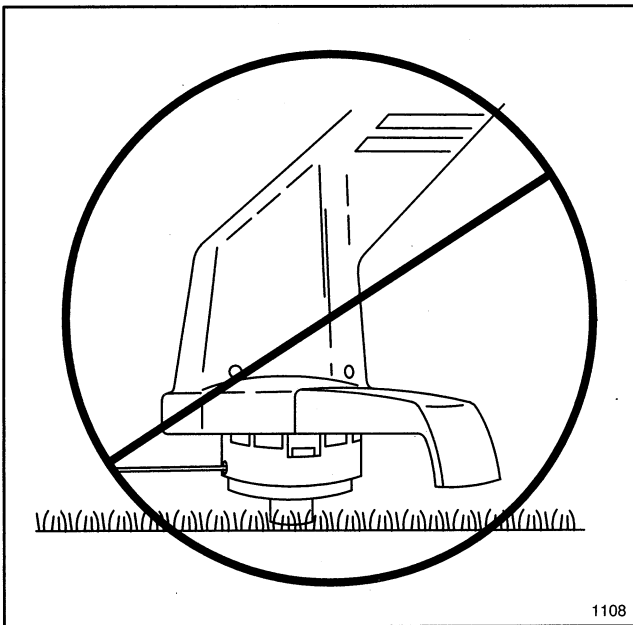

Figure 16
8. **Never drag the trimmer spool on the ground while trimming (Fig. 16). This causes motor overload and spool wear.**